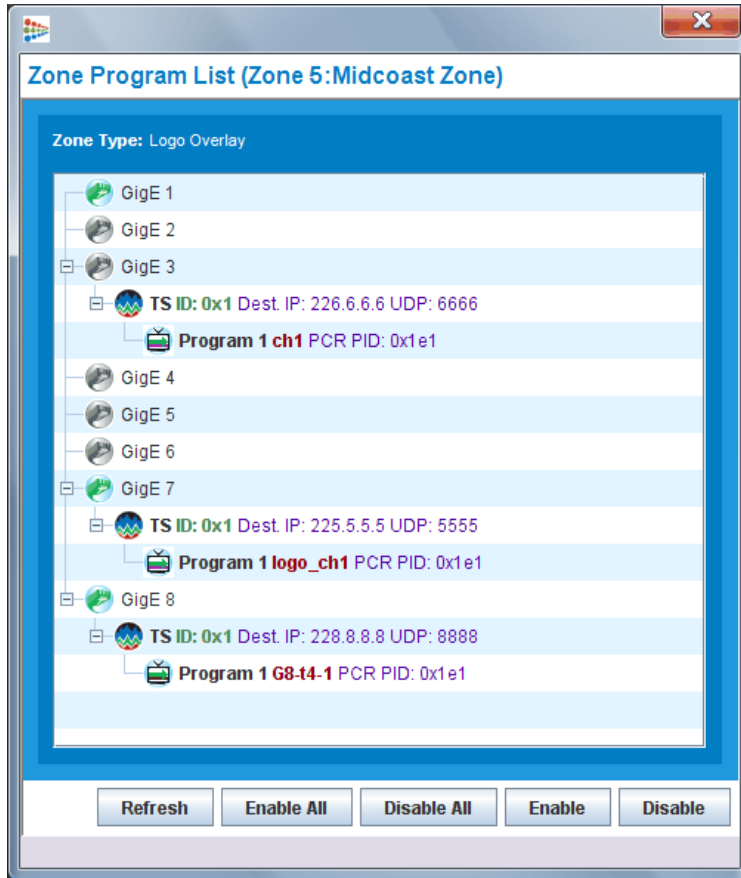
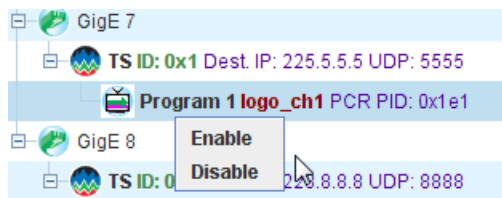

Figure 78. Show Program List window - drill down
Figure 79. Show Program List pop-up menu
- Enable or Disable specific programs for messaging: Highlight, then right-click on desired program and choose either **Enable** or **Disable** from the pop-up menu (Figure 78) or click the **Enable** or **Disable** button at the bottom of the window (Figure 79).
- Enable or Disable all configured programs for messaging: Click the **Enable All** or **Disable All** button at the bottom of the window (Figure 78).